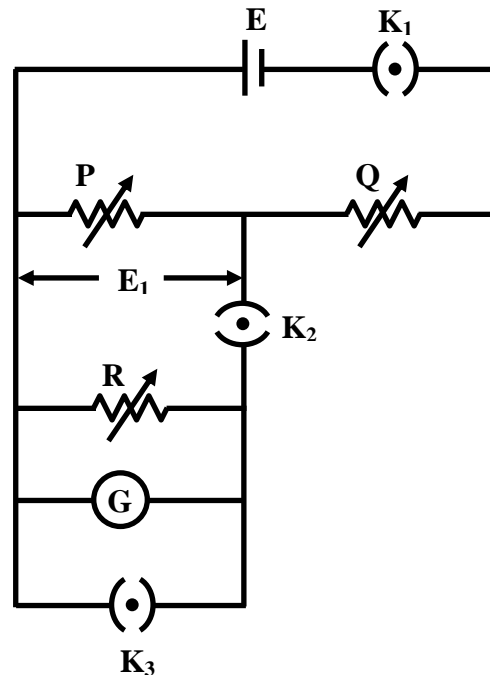

Fig. 2
- d) To determine external resistance R_s for critical damping of the galvanometer close keys K_1 and K_2 in Fig. 2, and when the deflection is 20cms, open K_2 . Now observe the movement of the light spot on the scale. First adjust R so as to obtain oscillatory motion, and then decrease R until the motion just ceases to be oscillatory. Note down the value of R for R_s .